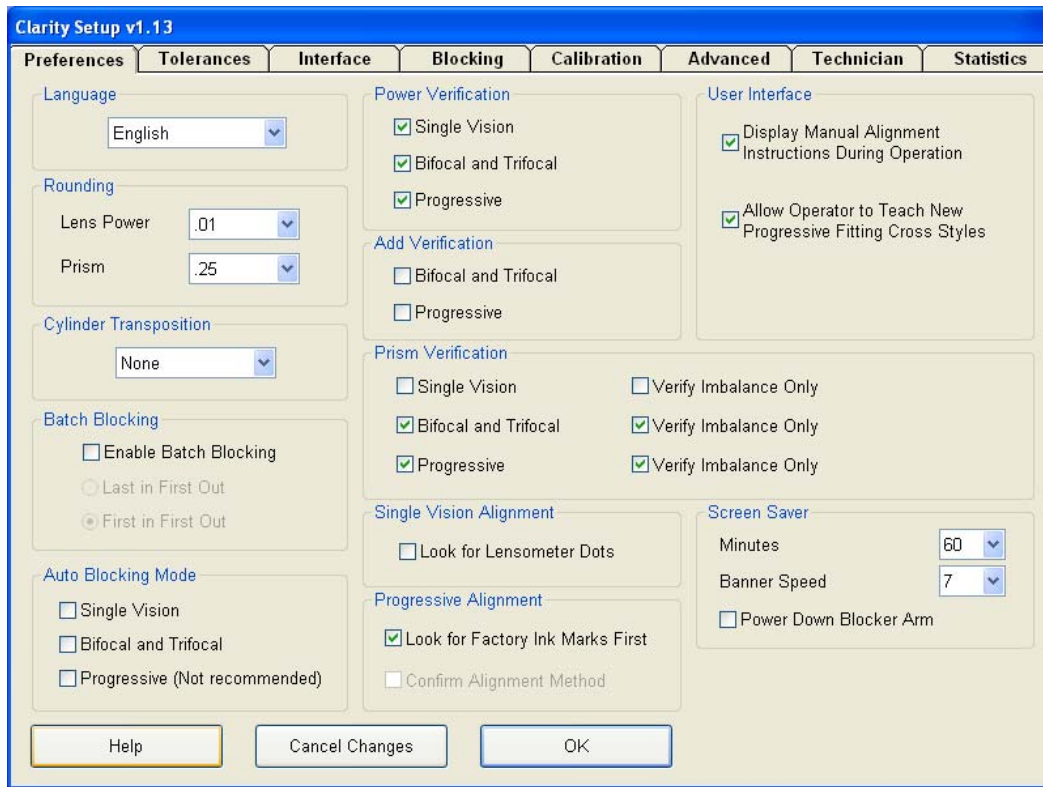

Figure 3.2 - Preferences Screen
5. **Block** – Activate the blocking sequence. Typically this is the most used button after the lens is analyzed. (See Figure 3.2 for automatic blocking.)